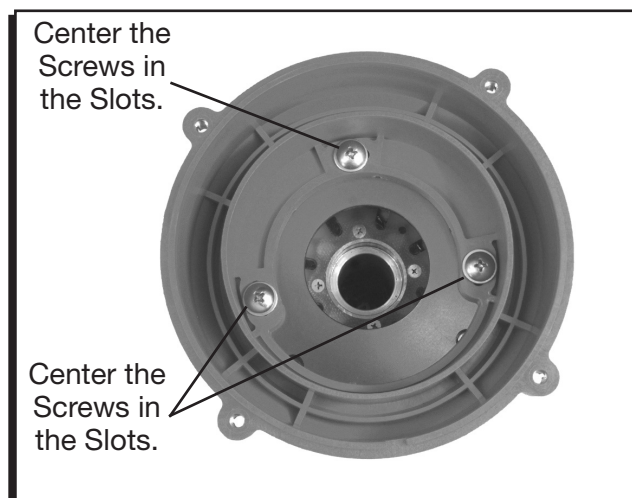

Figure 5 Installing the Adapter Ring.
4. Install the new adapter ring to the generator using the three new Truss head Phillips screws and flat washers. Position the adapter ring so the screws are in the middle of the adjustment slots (Figure 5). This gets the rotor phasing close enough to fire the engine to properly set the phasing.